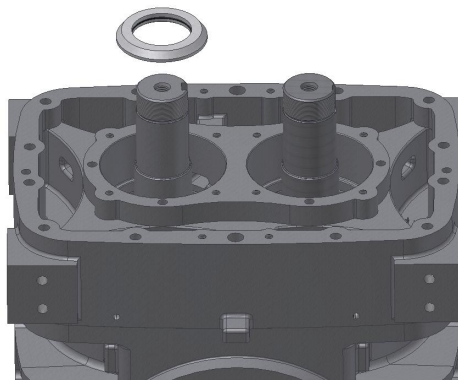

Figure 9-5 – MATING RING INSTALLATION
21. Install mating ring of mechanical seal assembly (43) onto rotor shafts. Reference FIGURE 9-5.